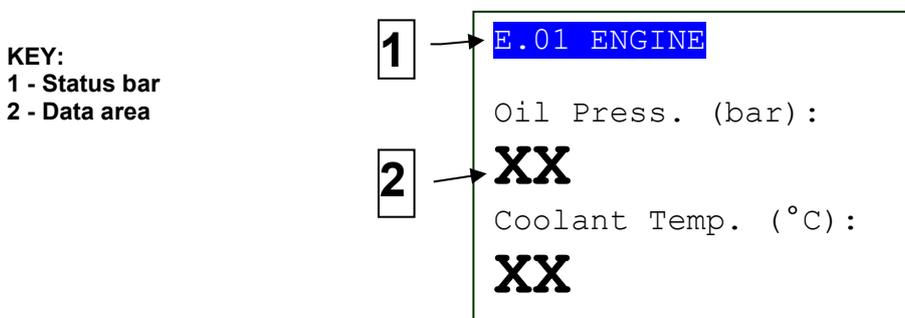

Fig. 4 – Display areas
8.5.4 Display area layout (ref. to fig. 4)